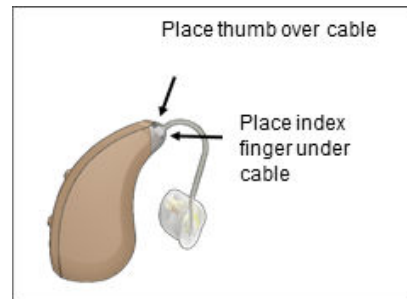

Figure 42. Cable Removal
- Hold the Processor in one hand and with the other hand place your index finger under the cable where it connects to the Processor with the thumb on top of the cable (Figure 42).